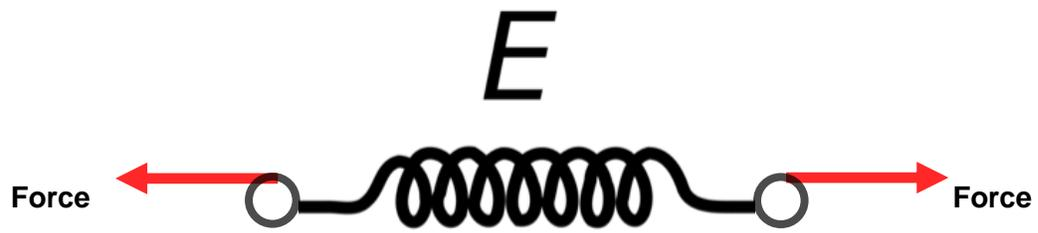
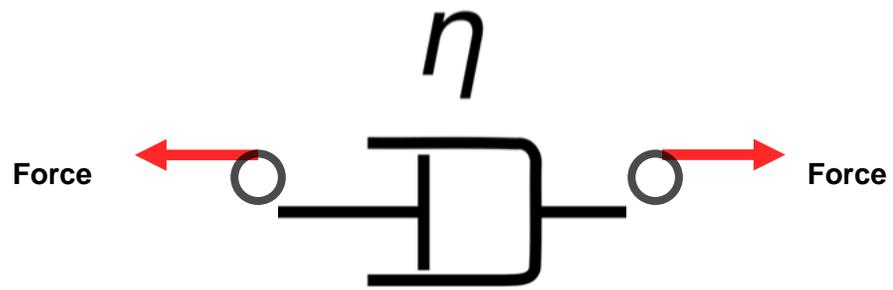

Figure 1. The elastic property (stiffness E) of plastics can be modeled with a spring.
Figure 2. The viscous property (η) of plastics can be modeled with a damper.
This article will not go into the endless models that are used to numerically describe the viscoelastic response of a plastic. However, I think it is enlightening to understand how viscoelastic behavior can be visualized. As one might expect, the elastic part of plastics can be modeled with a spring (Figure 1). The force required to elongate the spring is based on its stiffness (E). When the load is removed, the spring will fully recover nearly instantaneously to its original configuration. The viscous effect of plastics is modeled with a damper (Figure 2). The response of the damper to a load depends not only on the level of the load, but also how rapidly it is applied. If the load is applied quickly, the instantaneous deformation may be relatively small. Apply this same load, or even a smaller load, over a long period of time, and the damper will open (deform) significantly. Does this sound similar to how a plastic part might behave? Putting springs and dampers in different configurations will provide a different response of the plastic deformation over time. Figure 3 is one configuration that is commonly used to describe the